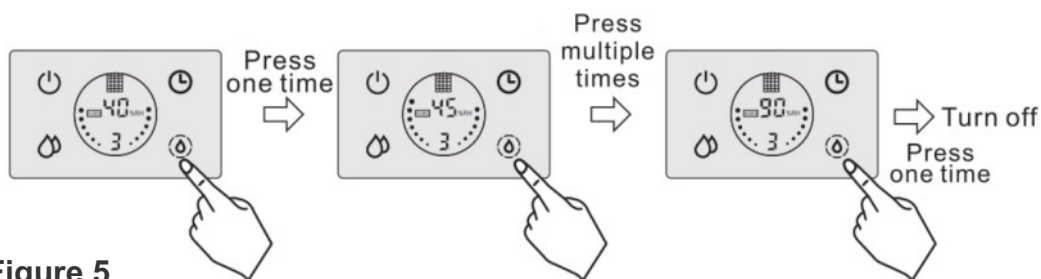

Figure 5
When the device is working, press the continuous humidification button (7D), you can set the humidity value in the range of 40-90% relative humidity, each subsequent press increases the value by 5%. Once the humidity level is set, the device continuously humidifies to the desired level. When the desired humidity level is reached, the device goes into standby mode and stops spraying the mist until the ambient humidity level drops to 5% below the desired humidity level. In this case, the device will start spraying the mist automatically again. Refer to figure 5. When you set the desired humidity value, this number flashes, when the selection is completed, the flashing will stop after 5 seconds. The display (8) shows the current room humidity and temperature alternately.